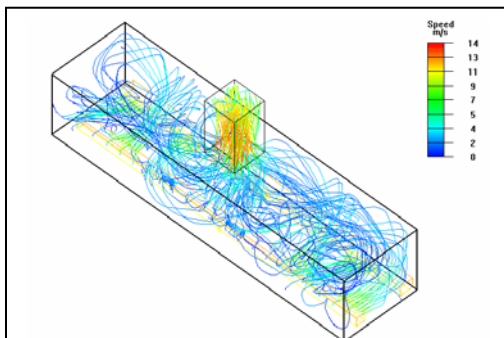

Figure 3
**It is important to maximize exposure of the exhaust airflow to UV light. The computational fluid dynamics (CFD) simulation was used to optimise the airflow in the UV chamber for the KVL hood (fig 3).**